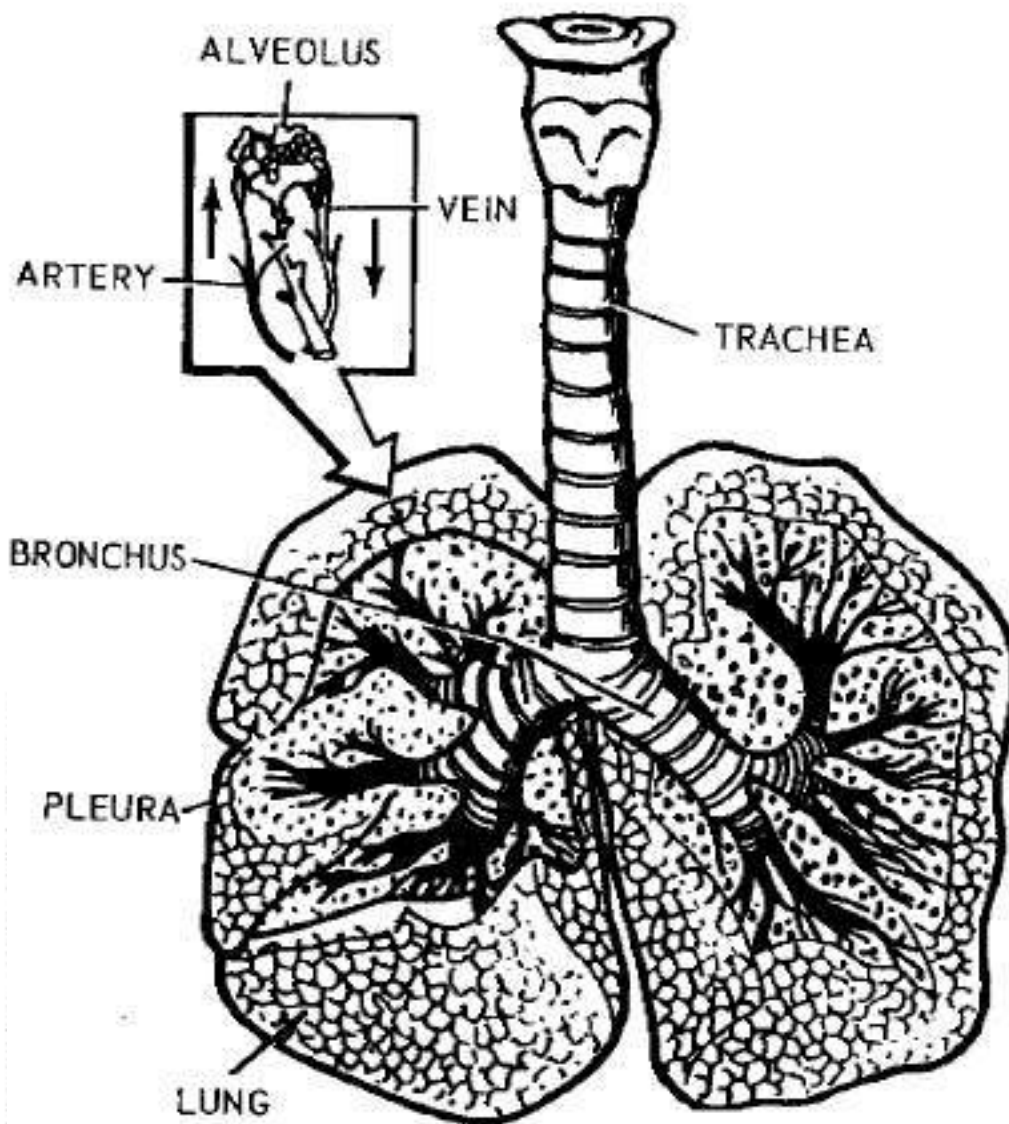

Figure 13-2. The lungs and air passages.
f. The trachea ends as it branches into two bronchi, one bronchus going to each lung. These bronchi then branch into many smaller bronchi and even smaller bronchioles as they carry air to and from the millions of tiny air sacs (alveoli) in the lungs (fig 13-2).
g. The two lungs (fig 13-2) are the essential organs of respira-